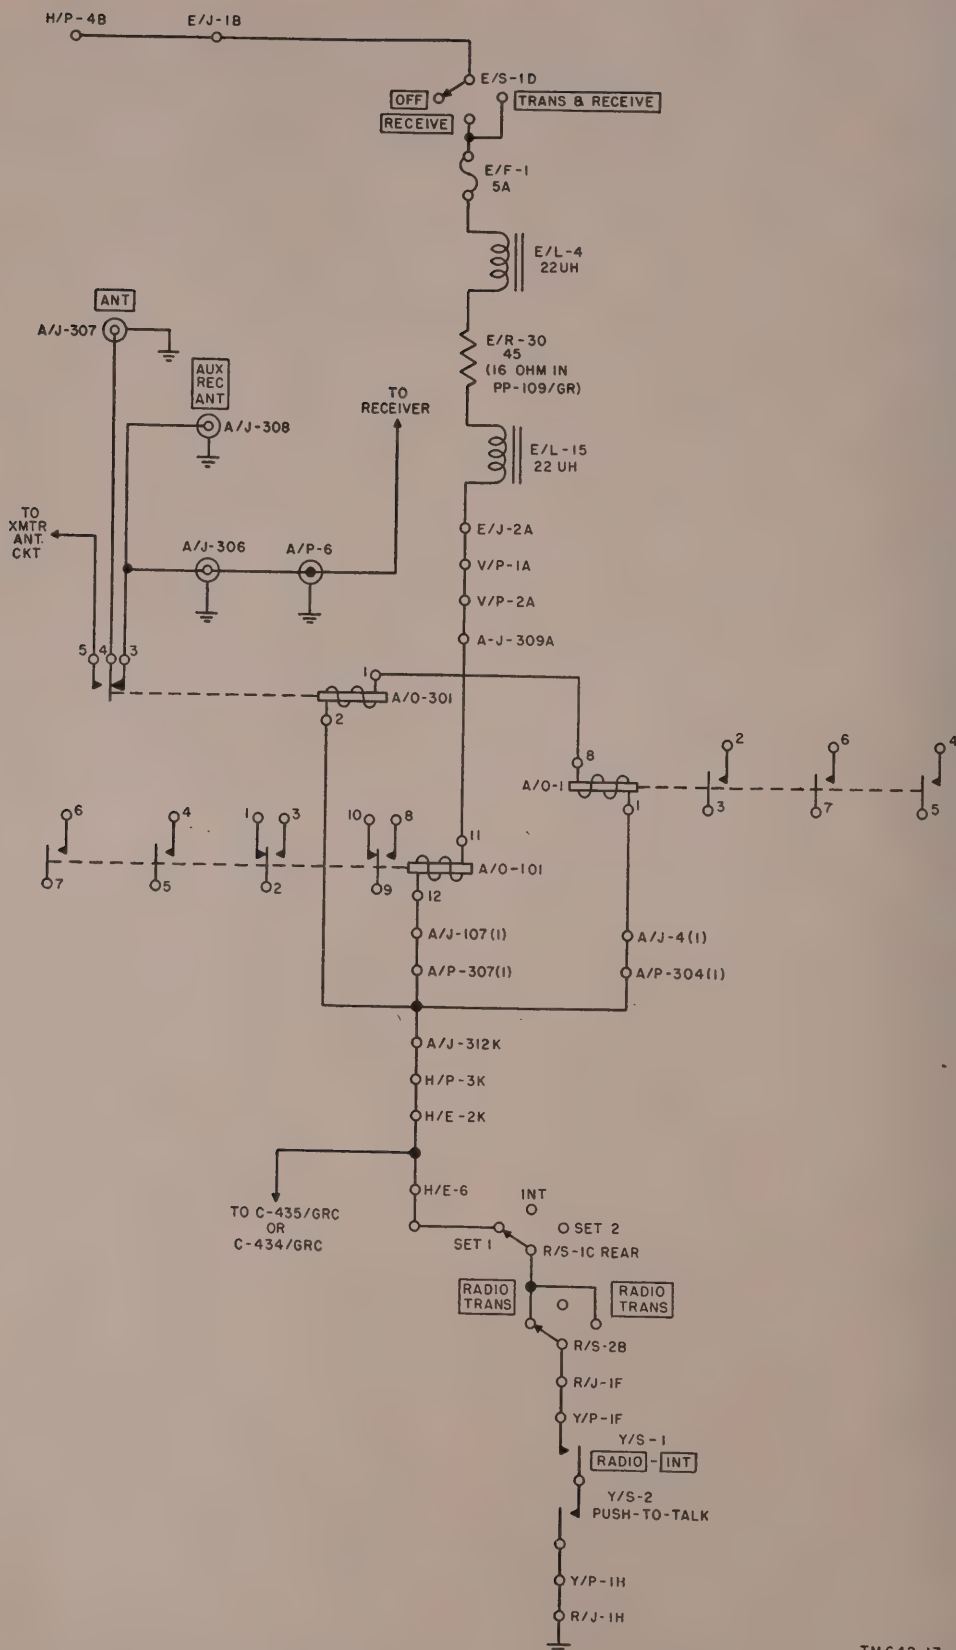

Figure 36. Transmit control circuits.
b. *Transmit Control Circuits* (fig. 36). The distribution of power to either the transmitter or the receiver sections of the receiver-transmitter is controlled by three relays, A/O-1, A/O-101, and A/O-301. When these relays are energized they transfer the receiver-transmitter from the receive to the transmit condition. The relays are energized when a push-to-talk switch is operated or when the DIAL LIGHT (OFF-ON)-RING switch is set at RING.
- (1) Battery voltage is applied to the three relay coils (which are connected in parallel) through terminal E/J-1B, the RECEIVE or the TRANS & RECEIVE positions of switch E/S-1D, fuse E/F-1, coil E/L-4, voltage-dropping resistor E/R-30, and coil E/L-15. E/R-30 has a value of 45 ohms in Power Supply PP-112/GR which is used with a 24-volt battery supply and a value of 16 ohms in Power Supply PP-109/GR. In either case, the voltage applied across the relay coils is dropped to a value of approximately 6 volts.
- (2) The ground return for the relay coils is made through one of several paths. The most commonly used path (fig. 36) is through the Set 1 position of R/S-1C rear, through either one of the RADIO TRANS. (closed) position of R/S-2B, through the RADIO positions of Y/S-1, and through Y/S-2 (the push-to-talk switch) to ground. When the circuit is completed to ground, the relays are energized. Alternate ground returns may be established through the RING position of the DIAL LIGHT (OFF-ON)-RING switch, or through a push-to-talk switch associated with control C-434/GRC or the control panel of the receiver-transmitter.
- (3) The antenna plugs into ANT jack A/J-307. This jack is connected to contact 4 of relay A/O-301. Normally, the antenna is connected through contacts 4 and 3 of A/O-301 to the auxiliary receiver and to the receiver section of the receiver-transmitter. When A/O-301 is energized, contacts 4 and 3 open and contacts 4 and 5
## 75. Control Circuits (fig. 36)
*a. General.* Push-to-talk control of the receiver-transmitter is possible at the AUDIO receptacles of the receiver-transmitter, all of the control box positions (Control Box C-375/VRC), Local Control C-434/GRC, and Remote Control C-433/GRC (figs. 36, 94, and 95). Interphone push-to-talk control is possible at the AUDIO receptacle of the interphone amplifier and at any one of the control boxes. In the following discussion the relay and microphone circuits to the control positions are described.
- (1) *Receiver-transmitter.* Application of energizing potential to the circuits containing the receiver-transmitter control relays is covered in paragraph 70b and is shown on figures 36 through 39. The three control relays of the receiver-transmitter (A/O-1, A/O-101, and A/O-301) are supplied with energizing potential from the receiver-transmitter power supply. The ground side of the relay is connected to the two AUDIO receptacles of the receiver-transmitter (A/J-310F and A/J-311F) (G, 27), to section 1B of DIAL LIGHT (OFF-ON)-RING switch A/S-302, and to the mounting through terminal K of REC-TR CONTROL receptacle (A/J-312) (G, 27). Wiring within the mounting distributes the lead from A/J-312K to each of the control positions, H/E-6(1) for Control Box C-375/VRC, and H/J-1C for Control C-435/GRC (not used in these radio sets) or Control Group AN/GRA-6. Switch A/S-302 in the RING position completes the ground circuit for the control relays and the input circuit from 1,600-cycle ringing oscillator (par. 81).
- (2) *Interphone amplifier.* The control relay (D/O-1) within the interphone amplifier is supplied with energizing potential from the interphone amplifier plug-in power supply (par. 71). The battery supply voltage is connect-